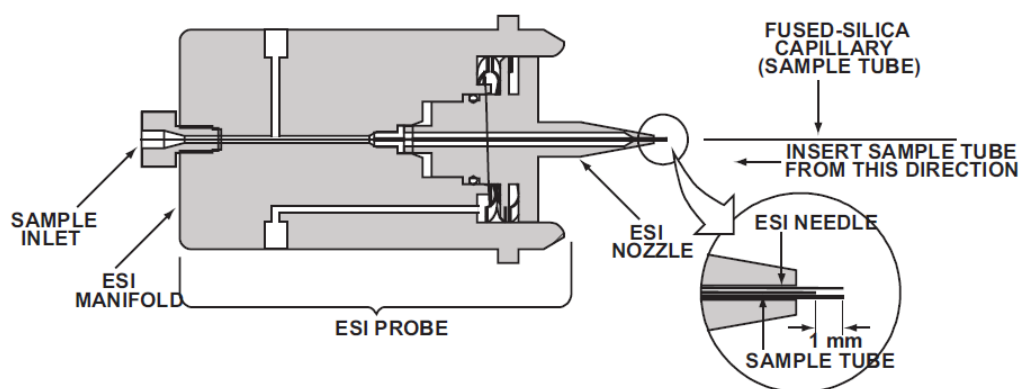

Figure 6. Installing the ESI fused-silica sample tube.
- 8.1.3.4.4.2. Insert the entrance end of the ESI needle into the needle seal. See Figure 6 for the proper orientation of the needle seal.
- 8.1.3.4.4.7. Pull the sample tube backwards until it is 1mm inside the exit end of the ESI needle. See Figure 6.